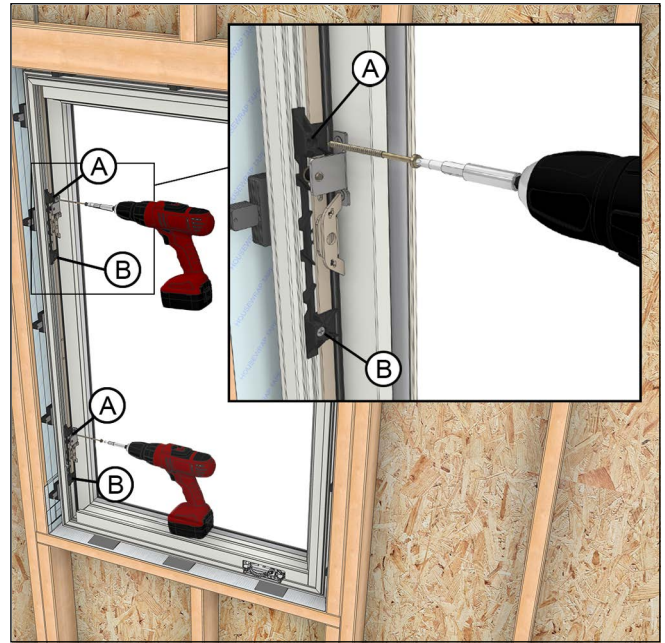

Figure 21
**10. Casement/Awning:** Add shims and fasten using through jamb installation screws at each (A) location, do NOT OVER TIGHTEN. Repeat steps at each (B) location. See Figure 21. Make sure unit is level, square, and plumb. Adjust shimming if necessary.